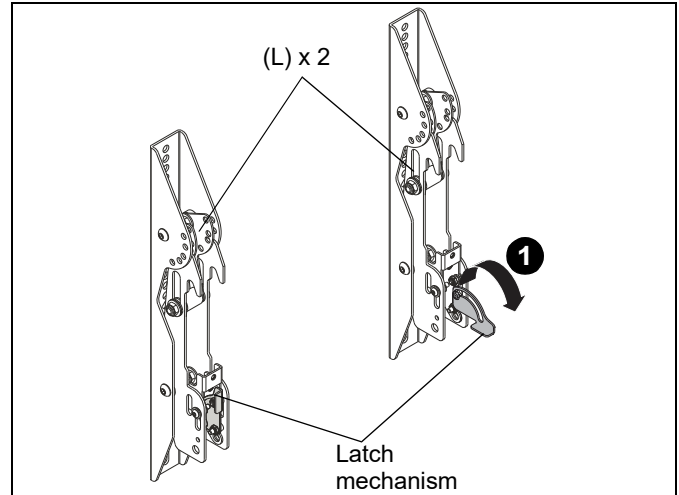

Figure 10
- Lower the latch mechanism on each interface bracket (L). (See Figure 10)
1. Ensure that the latch mechanisms on interface brackets (L) are already lowered. (See Figure 10)